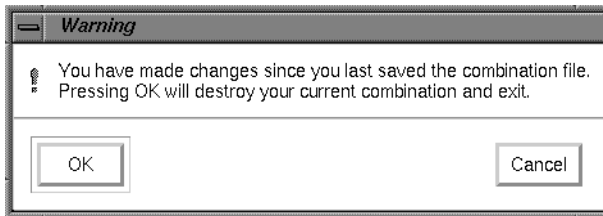

Figure 3-17 Exit Warning Dialog Box Example
12. Click the *OK* button when the Warning dialog box appears (see Figure 3-17).